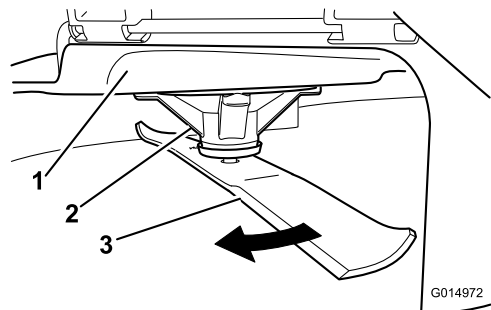

Figure 97
2. While wearing thickly padded gloves, or other adequate hand protection, slowly rotate the blade into a position that allows you to measure the distance between the cutting edge and the level surface the machine is on (Figure 97).